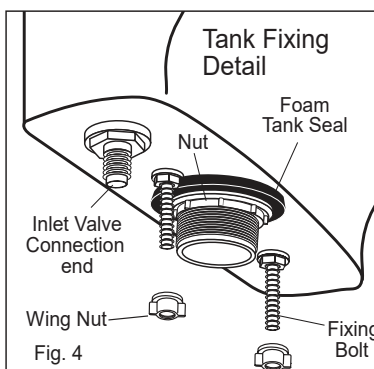

Fig. 4
- 1- Ensure that the foam seal is fitted onto the tail piece on the underside of the tank, as detailed in Fig.4.